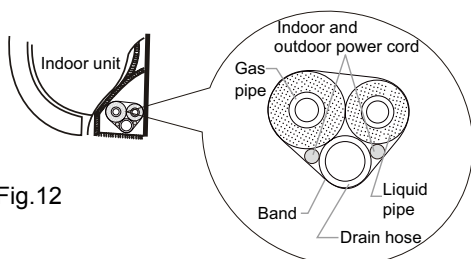

Fig.12
- (1) Bind up the connection pipe, power cord and drain hose with the band.(As show in Fig.12)